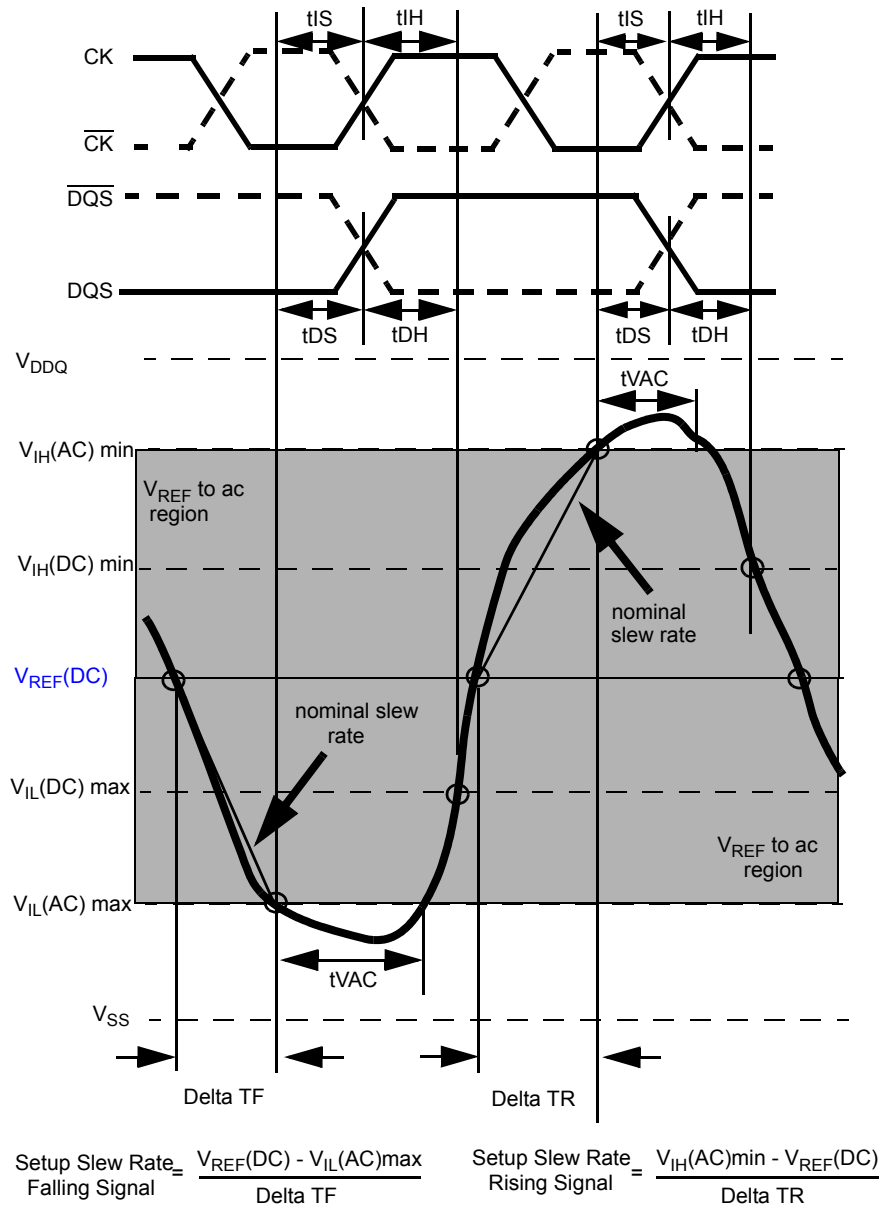
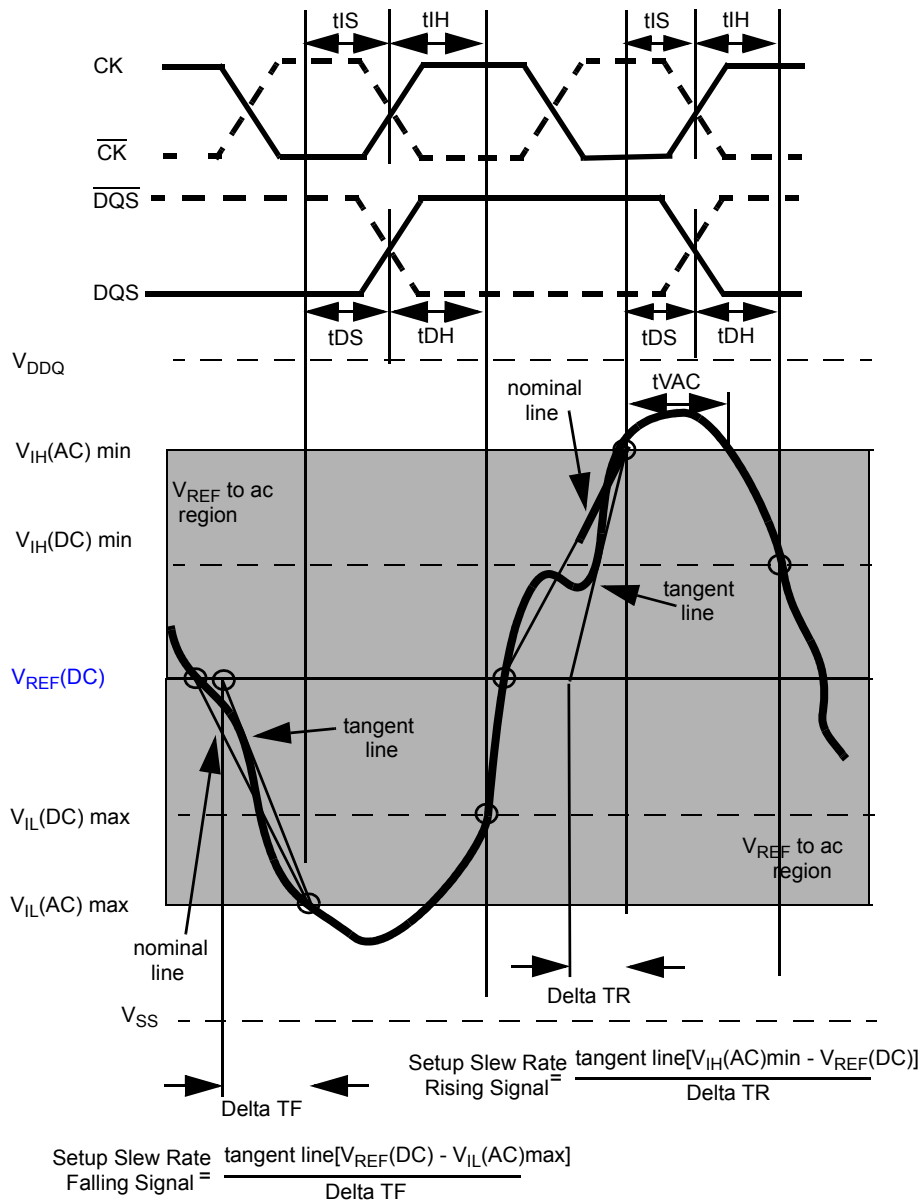

Figure 25 - Illustration of nominal slew rate and tVAC for setup time tDS (for DQ with respect to strobe) and tIS (for ADD/CMD with respect to clock).
Figure 27 - Illustration of tangent line for setup time tDS (for DQ with respect to strobe) and tIS (for ADD/CMD with respect to clock)
Setup (tDS) nominal slew rate for a rising signal is defined as the slew rate between the last crossing of VREF(DC) and the first crossing of VIH(AC)min. Setup (tDS) nominal slew rate for a falling signal is defined as the slew rate between the last crossing of VREF(DC) and the first crossing of VIL(AC)max (see Figure 25). If the actual signal is always earlier than the nominal slew rate line between shaded 'VREF(DC) to ac region', use nominal slew rate for derating value. If the actual signal is later than the nominal slew rate line anywhere between shaded 'VREF(DC) to ac region', the slew rate of a tangent line to the actual signal from the ac level to dc level is used for derating value (see Figure 27).